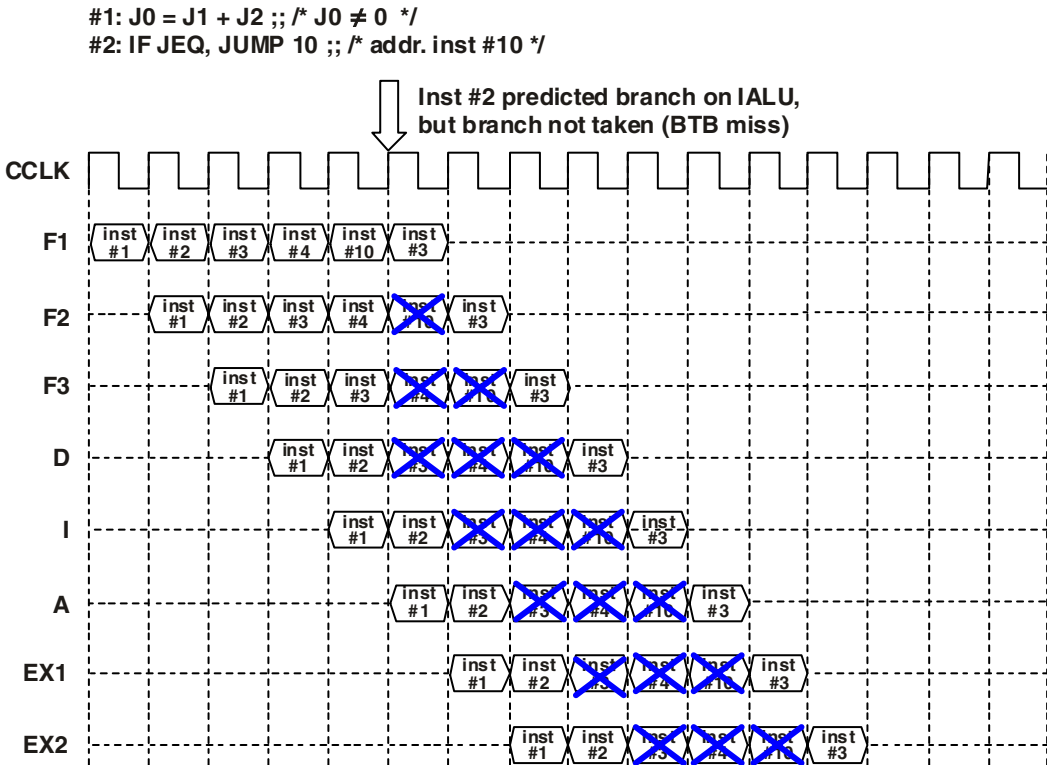

Figure 7-32. Predicted Branch Based on IALU Condition—Branch Not Taken—With BTB miss
Figure 7-32 shows a predicted branch that is based on an IALU condition. Because the branch is incorrectly predicted as taken and the BTB does not contain the branch instruction (BTB miss), the pipeline contents are not continuously executable (three pipeline stages voided), and there are three lost cycles (branch cost). Note that the pipeline evaluates the compute condition (JEQ flag set by instruction #1) when the conditional instruction reaches the Integer (I) pipeline stage. From this evaluation, the pipeline determines how many pipeline stages to void.